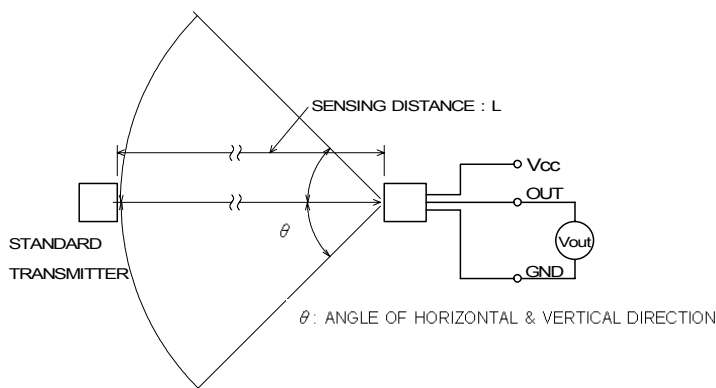

Fig.3 TEST SYSTEM
(2) Test system: Shown in Fig.3.